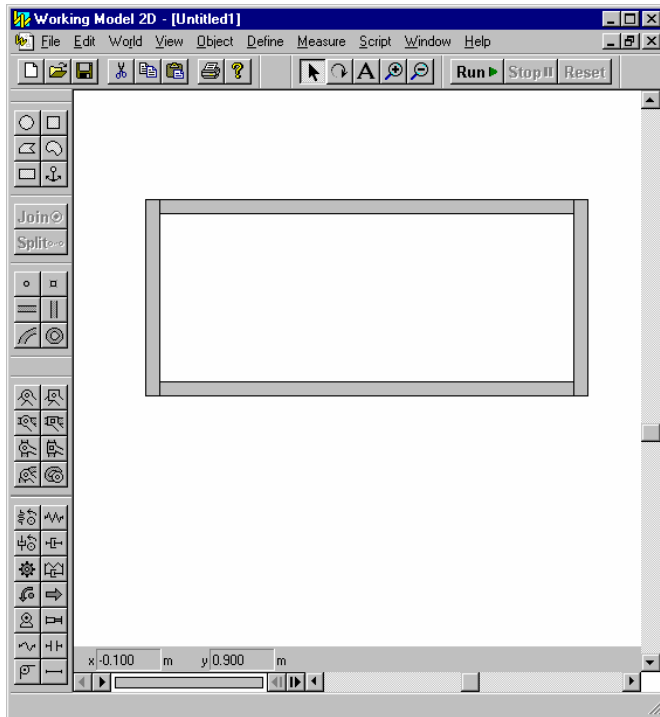

Figure 7. Building a fourbar linkage, Steps 3-5.
5. Draw another rectangle, overlapping the top and bottom rectangles, Figure 7.